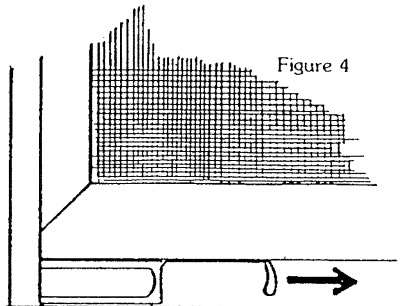

Figure 4
1. With bottom sash in an open (up) position disengage left and right screen locks to raise screen. (Figure 4)